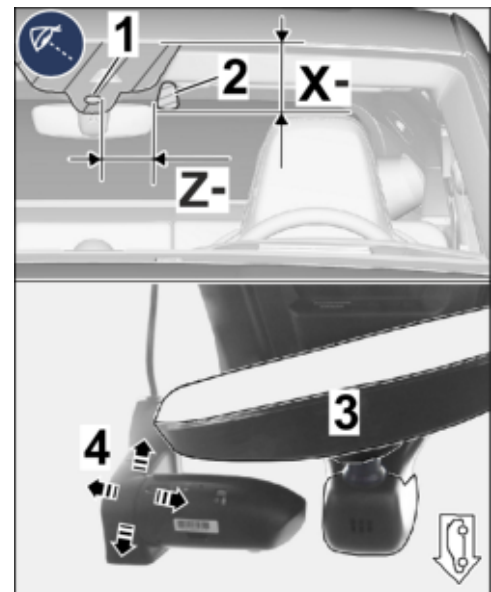

Figure 7
- 2.1.2 Trace outline of rain sensor on outside of windshield using grease pencil / chalk. ⇒ *Figure 7 -1-*
2.1.4 Position front camera with retainer plate (⇒ *Figure 7 -4-*) in the vehicle at the marking on the windshield. ⇒ *Figure 7 -Arrows-*